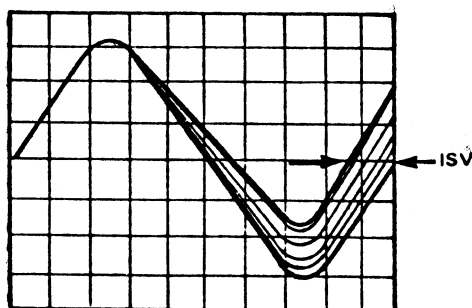

Figure 4-2. ISV Waveform
- f. ISV will appear as the width of the trace, as shown in Figure 4-2. The maximum allowable amount of ISV is eight percent of the overall width of one cycle of the waveform. If the ISV is greater than 8%, troubleshoot to the defective component; there is no adjustment.